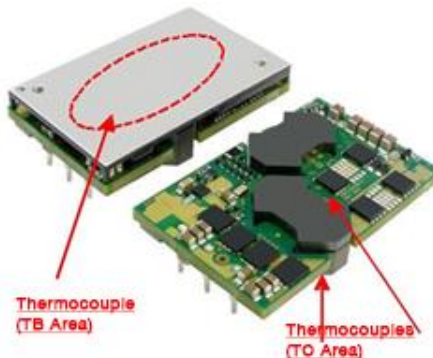

Figure 5. Location of the thermocouples for thermal testing
Ensuring components on the converter do not exceed their ratings is important to maintaining high reliability. If one anticipates operating the converter at or close to the maximum loads specified in the derating curves, it is prudent to check actual operating temperatures in the application. Thermographic imaging is preferable; if this capability is not available, then thermocouples may be used. The use of AWG #36 gauge thermocouples is recommended to ensure measurement accuracy. Careful routing of the thermocouple leads will further minimize measurement error. Refer to Fig. 5 for the optimum measuring thermocouple location.
- (ii) The output current at which the temperature at the thermocouple locations TC do not exceed 120°C. (Fig. 5)
- (ii) The output current at which the temperature at the thermocouple locations TC do not exceed 125°C. (Fig. 5)
The converter was shielded from air flow. The baseplate temperature was maintained  $\leq 85^\circ\text{C}$ , with an airflow rate of  $\geq 30\text{LFM}$  ( $\geq 0.15\text{m/s}$ ). Thermocouple measurements (in Fig. 5) were recorded as  $T_C \leq 120^\circ\text{C}$  and  $T_B \leq 85^\circ\text{C}$ . Refer to Figure 26 and Figure 27.